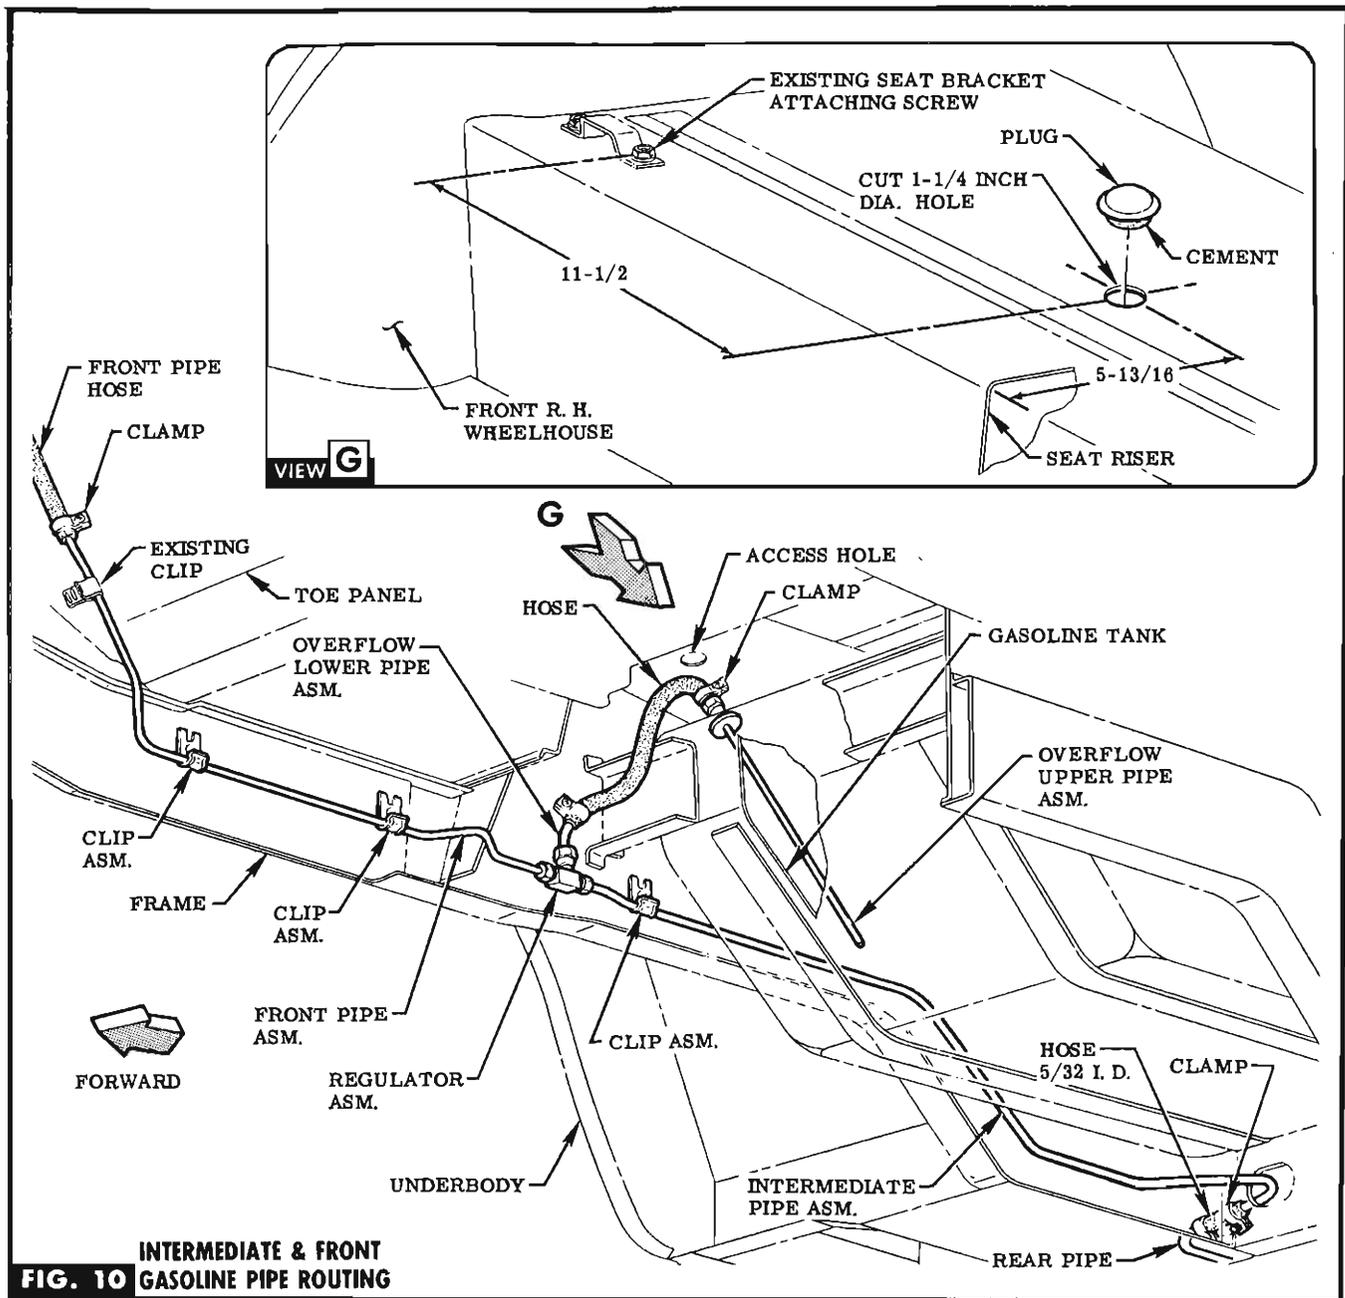

FIG. 10 INTERMEDIATE & FRONT GASOLINE PIPE ROUTING
STEP 47 ROUTE INTERMEDIATE PIPE FORWARD ALONG EXISTING PIPE, ATTACHING TO FRAME WITH EXISTING & PROVIDED CLIPS (IN BAG C). SEE FIG. 10.
STEP 48 JOIN INTERMEDIATE PIPE TO REAR PIPE WITH HOSE & CLAMPS PROVIDED (IN BAG C). SEE FIG. 10.
STEP 49 ATTACH REGULATOR TO INTERMEDIATE PIPE. SEE FIG. 10.
STEP 50 ROUTE FRONT PIPE FORWARD, ATTACHING TO FRAME WITH CLIPS PROVIDED (IN BAG C) & EXISTING CLIP ON TOE PANEL. SEE FIG. 10.
STEP 51 ATTACH FRONT PIPE TO REGULATOR. SEE FIG. 10.
STEP 52 ATTACH FRONT PIPE HOSE TO FRONT PIPE WITH CLAMP PROVIDED (IN BAG C). SEE FIG. 10.
STEP 53 ATTACH OVERFLOW LOWER PIPE TO REGULATOR. SEE FIG. 10.
STEP 55 REMOVE PLUG FROM GAS TANK & INSTALL OVERFLOW UPPER PIPE. APPLY CEMENT (IN BAG C) TO PROVIDED PLUG & INSTALL IN ACCESS HOLE. SEE FIG. 10 & VIEW G.
STEP 56 JOIN UPPER & LOWER OVERFLOW PIPES WITH HOSE & CLAMPS PROVIDED (IN BAG C). SEE FIG. 10.